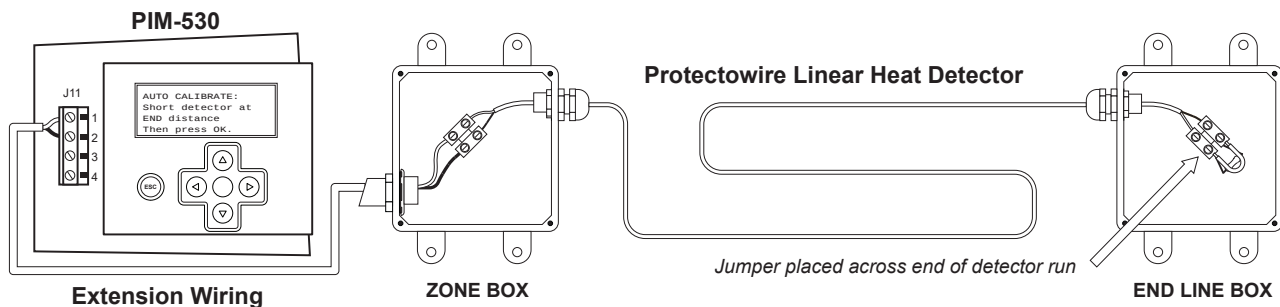

Figure 9
Step 2 - Place a short across the end (END distance) of the digital linear heat detector run as depicted in Figure 9 for Class B and as depicted in Figure 10 for Class A.